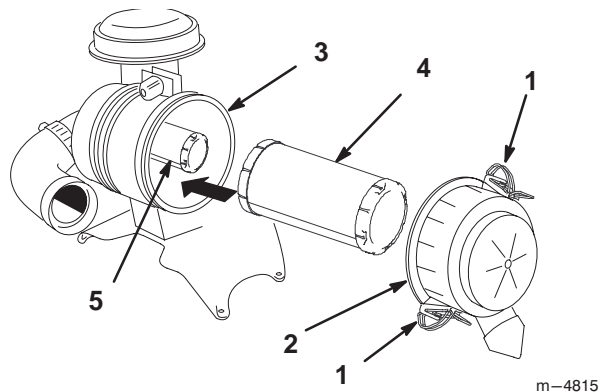

Figure 24
2. Release the latches on the air cleaner and pull the air cleaner cover off of the air cleaner body (Fig. 24).
4. Gently slide the primary filter out of the air cleaner body (Fig. 24). Avoid knocking the filter into the side of the body. Do not remove the safety filter, unless you intend to replace it as well.
2. If the safety filter is being replaced, carefully slide it into the filter body (Fig. 24).
3. Carefully slide the primary filter over the safety filter (Fig. 24). Ensure that it is fully seated by pushing on the outer rim of the filter while installing it.
4. Install the air cleaner cover with the side indicated as UP facing up and secure the latches (Fig. 24).